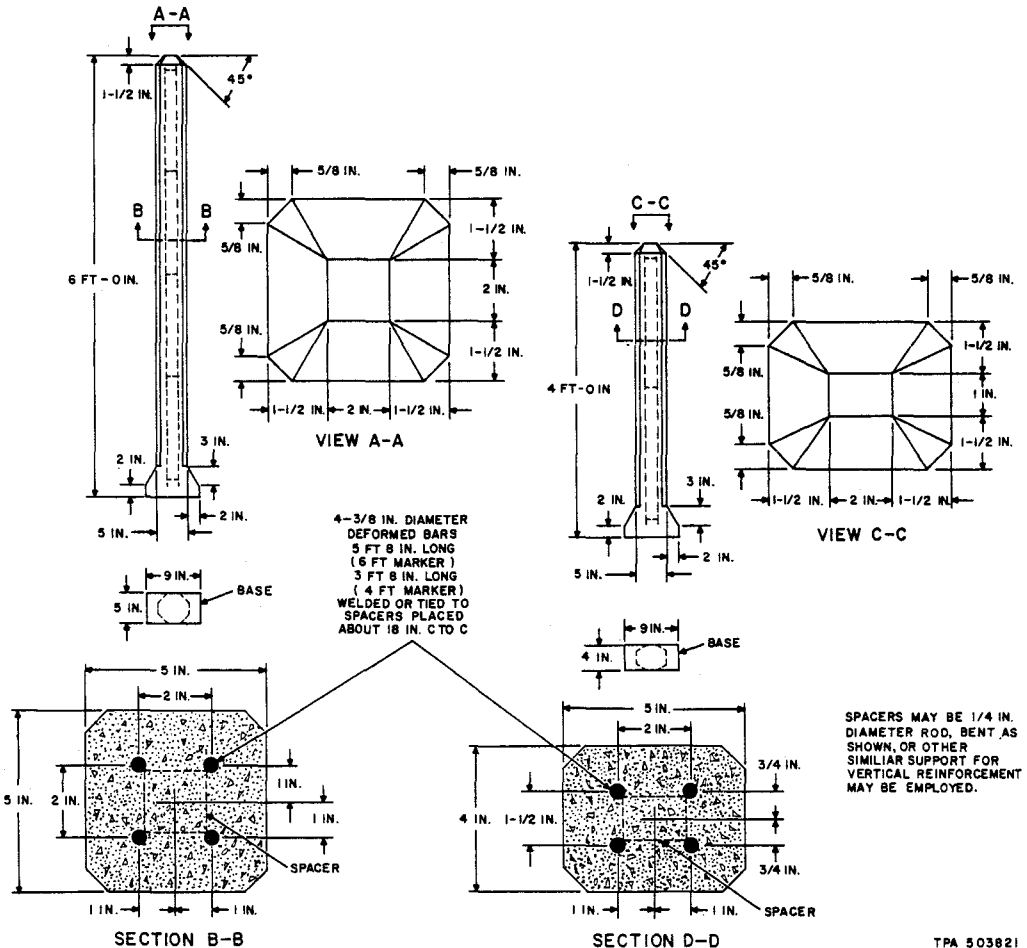

Fig. 1—Concrete Markers
2.06 The concrete markers may be made locally, or purchased from a local concrete products supplier. The markers should be made of 3000 pound concrete with 3/8-inch the maximum size of the course aggregate. The markers should be reinforced and formed as illustrated in Fig. 1.